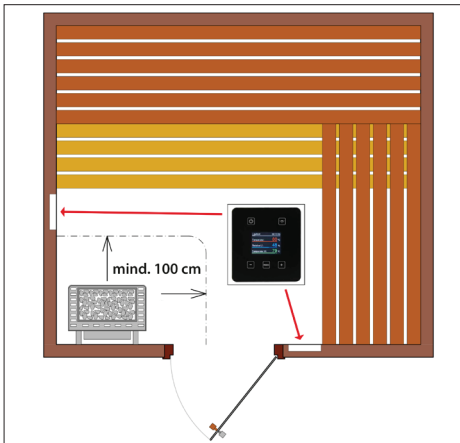

Fig. 7
**Attention:** When assembling the operating unit, keep a minimum distance of 1000 mm from the sauna heater (Fig. 7).